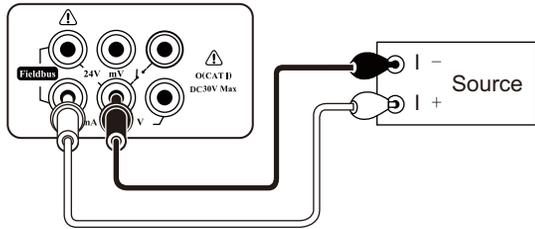
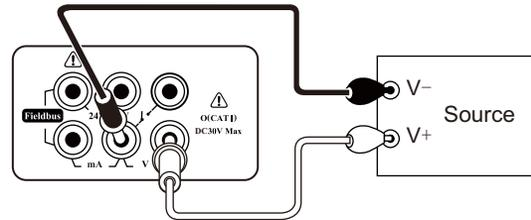

Fig. 3-4 Current measurement
Fig. 3-5 Voltage measurement
2. Connection: refer to Fig. 3-4, Fig. 3-5 and Fig. 3-6.